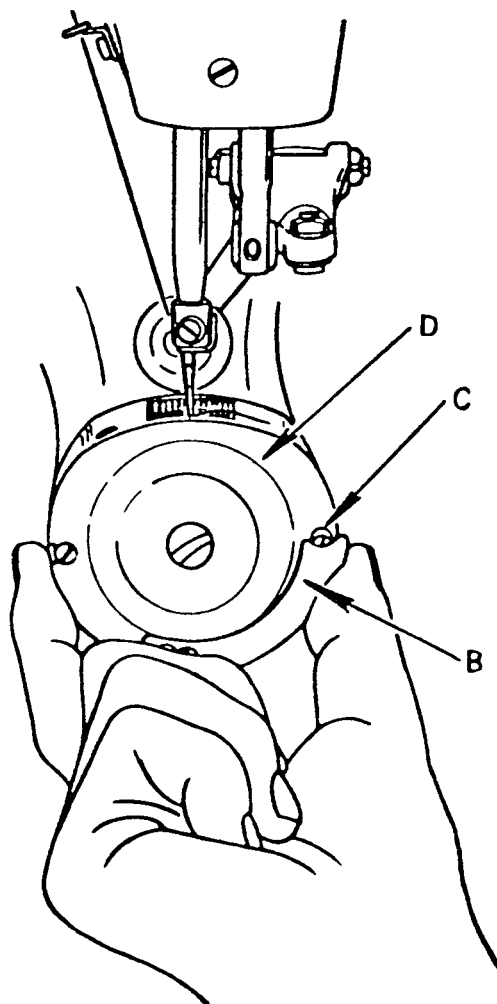

Fig. 8 Removing the Cap
Turn the machine pulley until the needle bar is at its highest point. Press outward on the spring (b) as shown in Fig. 8, so as to clear the screw (C, Fig. 8) and at the same time raise the back edge (D, Fig. 8) of the cap until the screw head (C) is under the spring, then pull outward on the cap and slide it from you. Turn the machine pulley over from you until the needle bar is at its lowest point, then with the thumb and forefinger of the right hand, lift out the shuttle; open the shuttle cover, turn the shuttle downward and the bobbin will drop out.